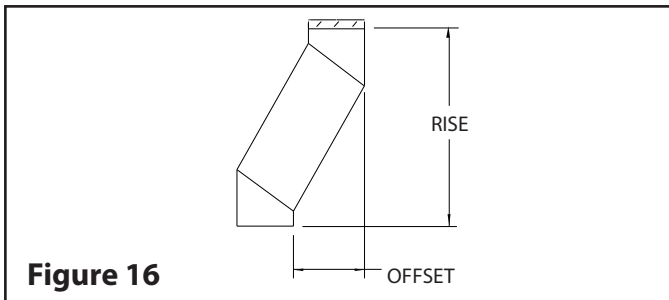

Figure 16
- Step 4. Center the chimney and nail or screw the support to the roof or floor using (8) - 2-1/2" nails or (8) N^o. 8 - 1-1/4" wood screws. (**Figure 16**).